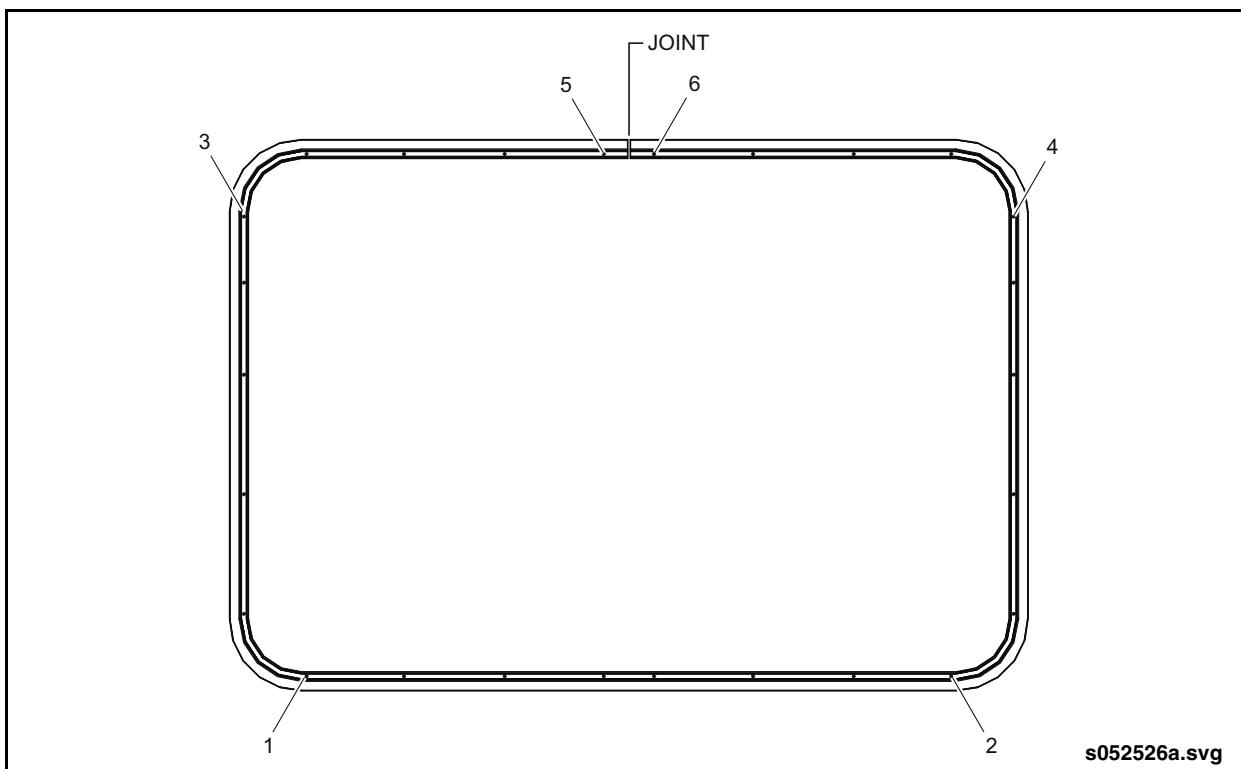

Fig. 14-29: Initial Screw Tightening Sequence
5. Install the first six screws in the locations shown and apply an initial torque of 20 in-lb. in the sequence shown. See “Fig. 14-29: Initial Screw Tightening Sequence” on page 35.